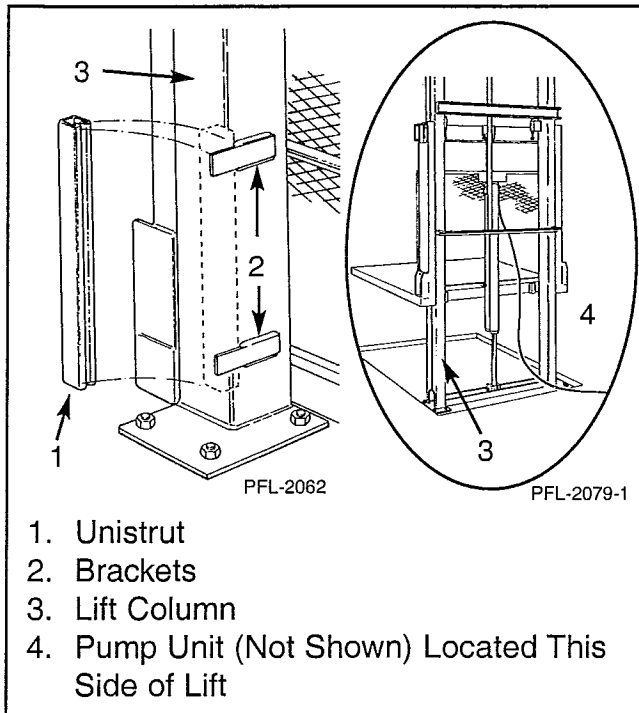

Figure 2
1. Mount unistrut to the back of the column opposite the pump unit using the brackets provided. See Figure 2.